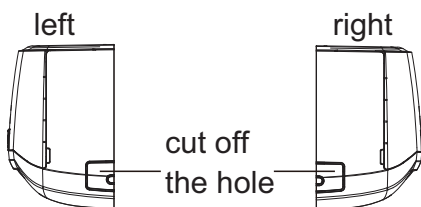

Fig. 7 – Refrigerant Line Routing
2. Remove knockout (see Fig. 7).